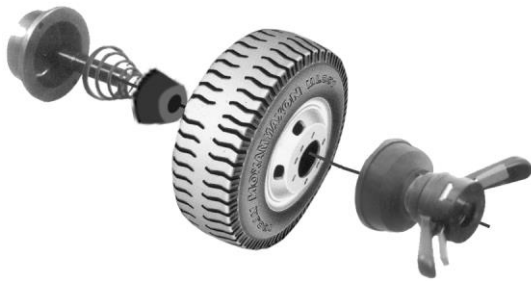

Fig. 5
4.2.2 Reverse Clamping (shown in Fig. 5)